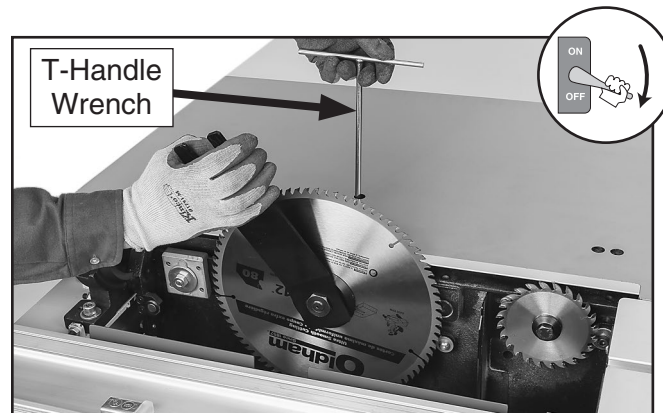

Figure 83. Loosening main blade arbor nut.
5. Insert T-handle wrench through table top hole (see Figure 83) and into one of the holes in main blade pulley under table. This will keep blade arbor from rotating during next step.